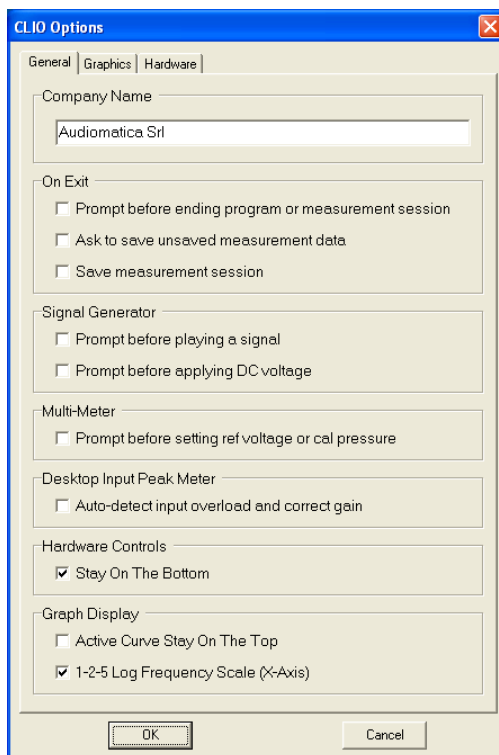

Fig.5.7 Options General dialog
Opens the CLIO Options dialog box (Fig.5.7)
- Opening this tab (Fig. 5.7) you can define the following: